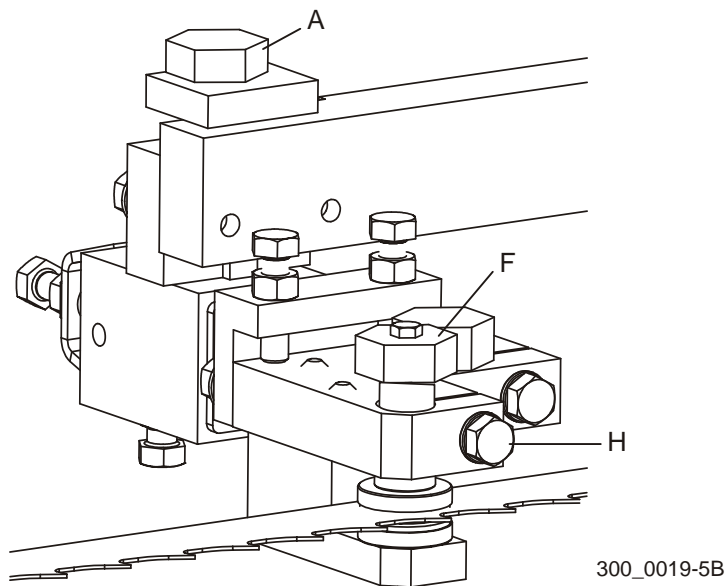

FIG. 5-9
See Figure 5-9. Use bolt (A) to adjust each blade guide assembly down, then back up so there is a slight gap between the bottom guide disks and the blade. Loosen clamp bolt (H) and turn bolt (F) clockwise to adjust the top disk down until the blade is firmly clamped between the guide disks.